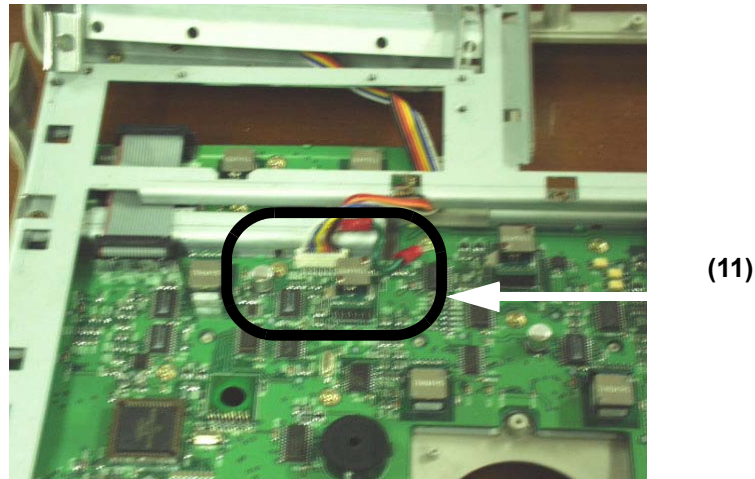

Figure 8-43 Disconnect one connector
- 2.) Disconnect one connector (11) from the main circuit board in the keyboard. Refer to section Figure 8-43 on page 30.